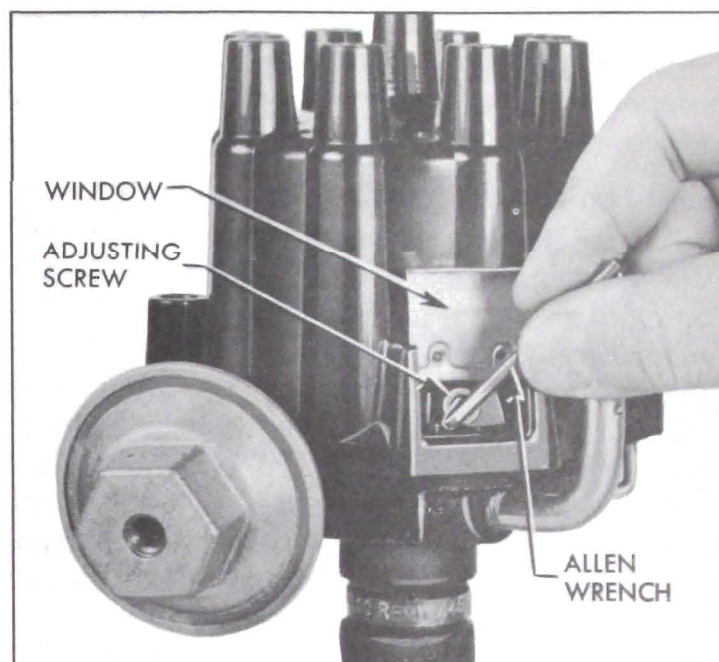

Figure 10-41—Adjusting Contact Point Dwell Angle
3. Start engine. Lift adjustment window and insert $\frac{1}{8}$ " Allen wrench in adjusting screw. See figure 10-41. Set dwell angle at 30 degrees.